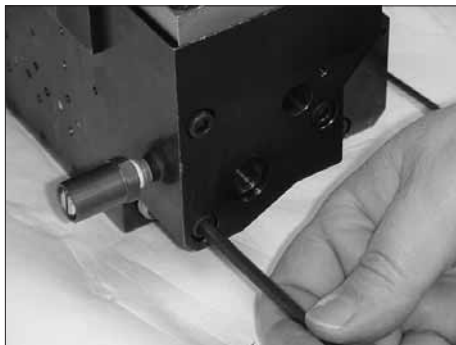

Figure 7-94 Removing the filter block
4. See Figure 7-94. Using an M5 hex wrench, remove the filter block.